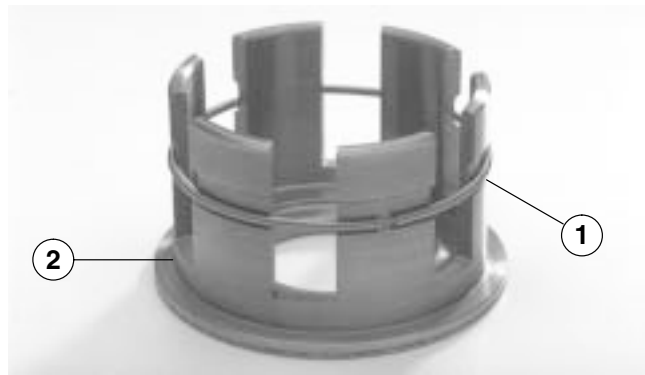

Figure 75
2. Place garter spring around the cage and into the groove (Fig. 75).